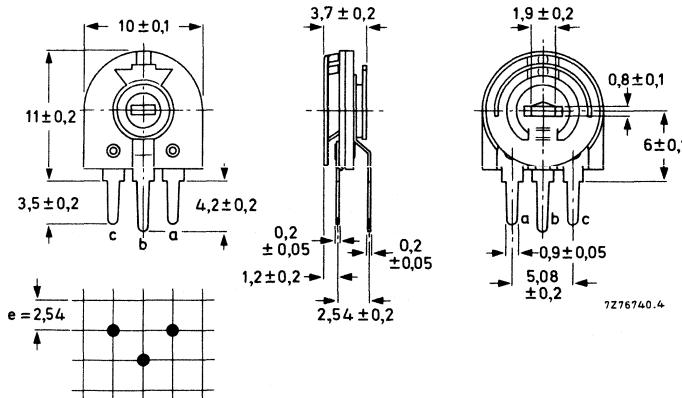

Fig.3 Potentiometer for vertical mounting 2322 410 011 ..
- 11 = vertical mounting (Fig. 3)